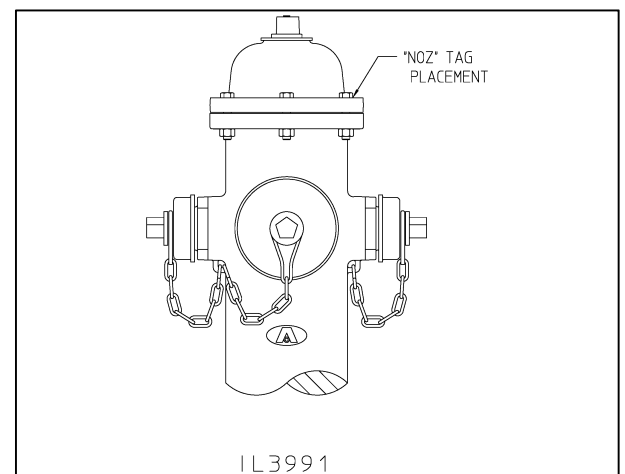

Figure 4 – "NOZ" Tag Placement
1. AMERICAN Flow Control will furnish a tag and washer. As detailed in Figure 3, the tag will have the letters "NOZ" on the top surface. Install the tag on the top of the hydrant housing flange as shown in Figure 4. To install the tag, remove one of the bolts on the hydrant housing. Place the housing bolt through the washer and then the tag, and replace the bolt on the hydrant. Secure the nut underneath, and tighten the bolt with approximately 60 ft.-lbs. of torque.